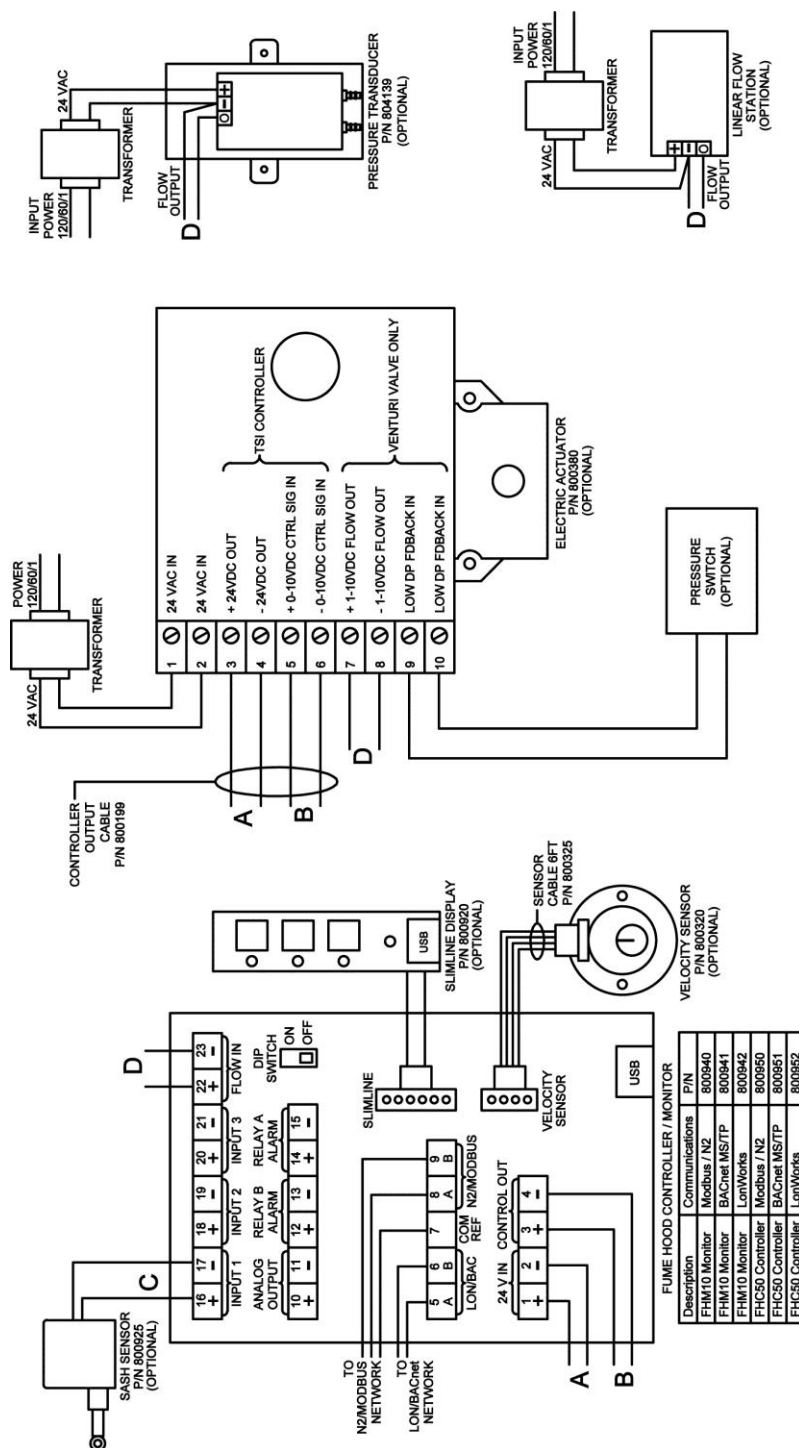

Figure 6: Controller or Monitor Wiring Diagram
2. Refer to the wiring diagram (Figure 6) for proper wiring procedures, and connect all necessary wiring to the connector blocks.